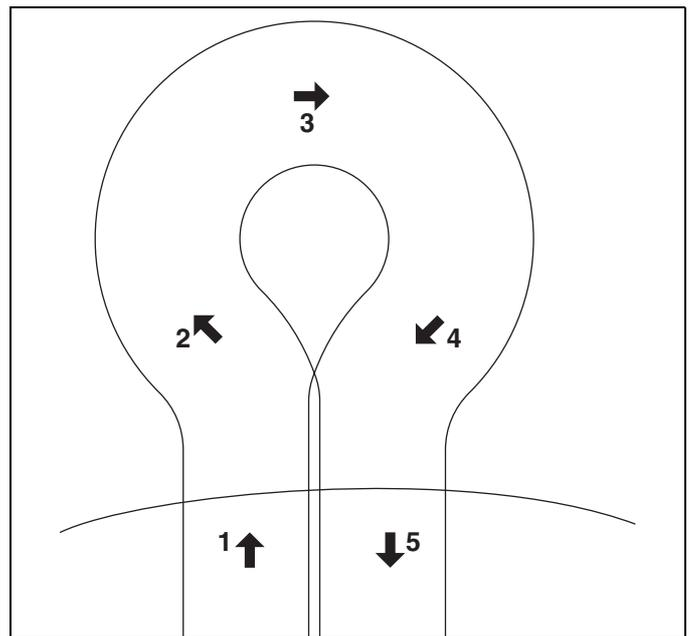

Figure 6E
- a. Adjust engine speed (B) to provide a safe, comfortable walking speed.
- b. Push handle down to lift the mower head above the grass then engage the O.P.C. bail (C).
- e. To turn to the right, start by turning mower slightly to the left (2). When the mower has moved approximately 1/2 its own width to the left, swing it around quickly to the right (3 and 4), guiding the mower with your right hand. This method makes it possible to turn around quickly with very few steps. [Figure 6E]